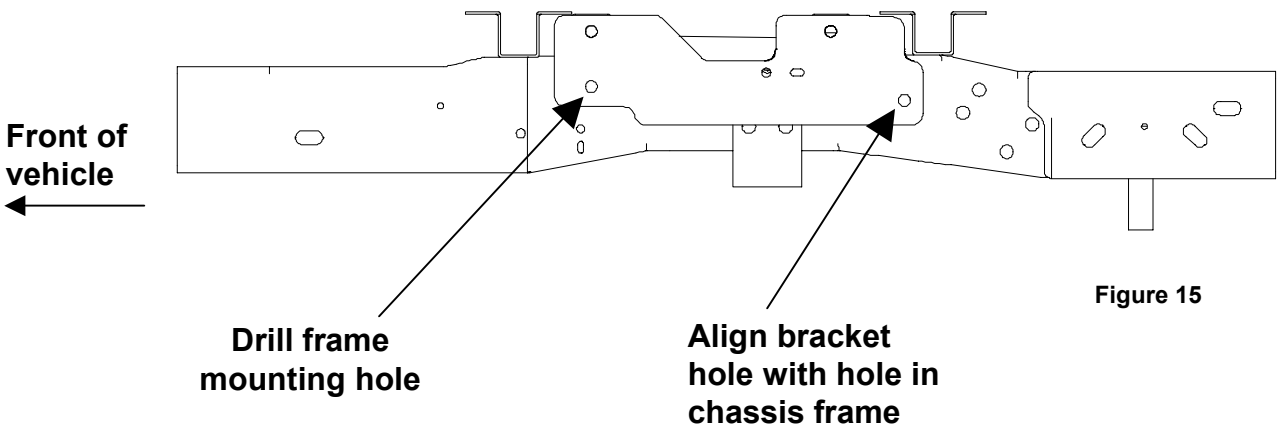

Figure 15
10. Align hole in bracket with hole in chassis and after checking to ensure that rails are square with each other, drill pilot hole in frame using frame bracket as a template. Enlarge pilot hole to 21/32" diameter hole (**Figure 15**).